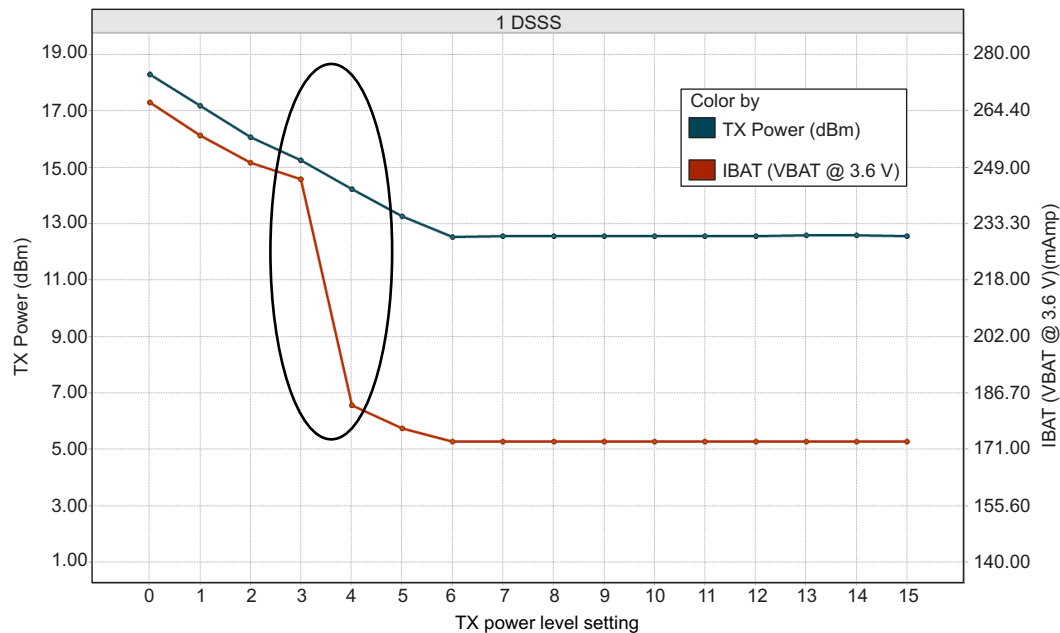
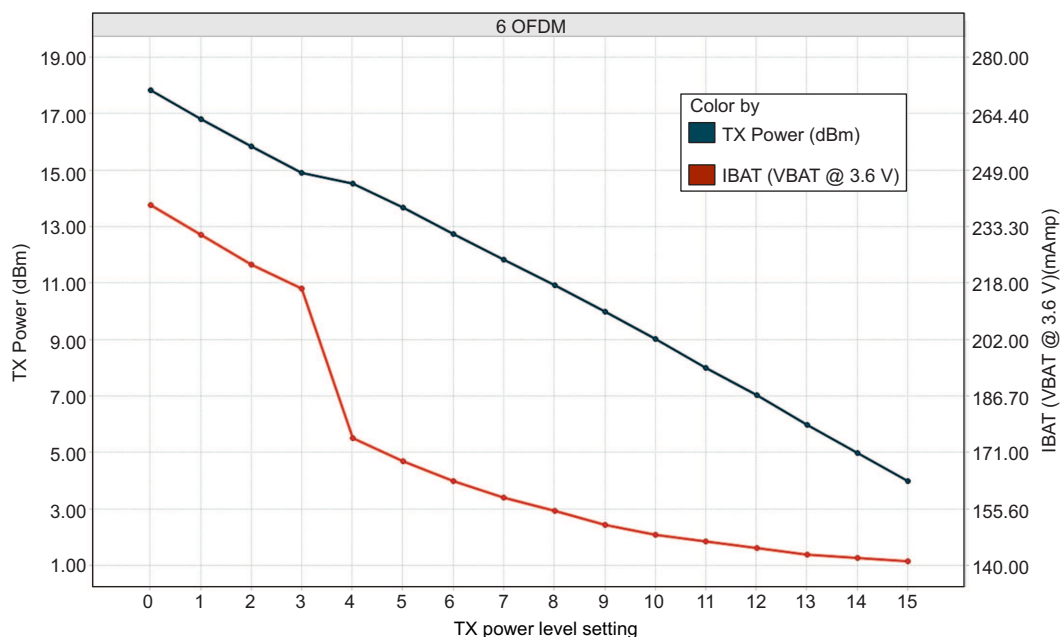
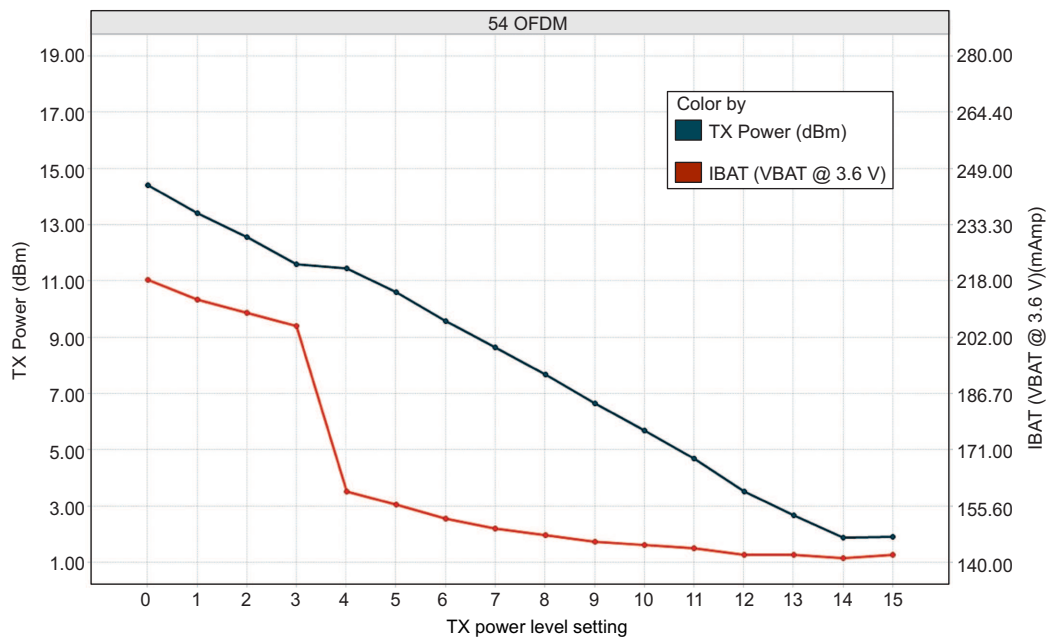

Figure 5-1. TX Power and IBAT vs TX Power Level Settings (1 DSSS)
Figure 5-2. TX Power and IBAT vs TX Power Level Settings (6 OFDM)
Figure 5-3. TX Power and IBAT vs TX Power Level Settings (54 OFDM)
- (1) TX power level = 0 implies maximum power (see Figure 5-1, Figure 5-2, and Figure 5-3). TX power level = 4 implies output power backed off approximately 4 dB.
- (2) CC3220MODx and CC3220MODAx are constant, power-source systems. The active current numbers scale based on the V_{BAT} voltage supplied.
- (3) The RX current is measured with a 1-Mbps throughput rate.
- (4) DTIM = 1
- (5) The LPDS number of reported is with retention of 256KB of MCU SRAM. The CC3220MODx and CC3220MODAx modules can be configured to retain 0KB, 64KB, 128KB, 192KB, or 256KB of SRAM in LPDS. Each 64-KB block of MCU retained SRAM increases LPDS current by 4 μA.
- (6) The complete calibration can take up to 17 mJ of energy from the battery over a time of 24 ms. In default mode, calibration is performed sparingly, and typically occurs when re-enabling the NWP and when the temperature has changed by more than 20°C. There are two additional calibration modes that may be used to reduced or completely eliminate the calibration event. For further details, see CC3x20 SimpleLink™ Wi-Fi® and Internet of Things Network Processor Programmer's Guide.
Figure 5-1, Figure 5-2, and Figure 5-3 show TX Power and IBAT versus TX power level settings for the CC3220MODS module at modulations of 1 DSSS, 6 OFDM, and 54 OFDM, respectively. For the CC3220MODSF module, the IBAT current has an increase of approximately 10 mA to 15 mA depending on the transmitted rate. The TX power level will remain the same.
In Figure 5-1, the area enclosed in the circle represents a significant reduction in current during transition from TX power level 3 to level 4. In the case of lower range requirements (14-dBm output power), TI recommends using TX power level 4 to reduce the current.